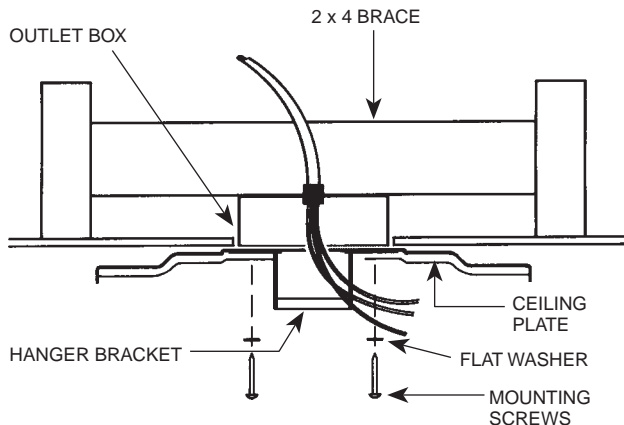

FIGURE 4B
B. Thread the lead wires through the opening in the top of the ceiling plate and through the opening in the side of the hanger bracket. See Figure 4B.
Using the two center slots, install the ceiling plate to the 2 x 4 brace which supports the outlet box. Use (2) #10 woodscrews 3" long and (2) flatwashers for mounting. Drill (2) pilot holes for the mounting screws 9/64" diameter. See Figure 4B.